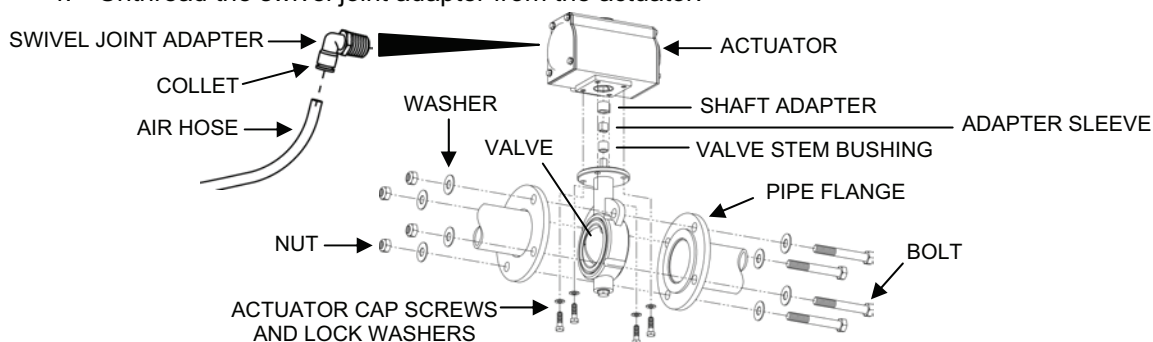

Figure 7. Butterfly Valve Replacement.
Replace any of the butterfly valves listed below as follows (see Figure 7):
- e. If the shaft adapter and adapter sleeve fell out of or were removed from the actuator, insert the shaft adapter into the actuator drive bore. Set the key of the shaft adapter into the actuator bore keyway so that when the valve is assembled onto the actuator, the valve body will be aligned with the actuator as shown in Figure 7.
- i. Make sure the valve body is aligned with the actuator as shown in Figure 7. If it is not, remove the valve and the shaft adapter / adapter sleeve. Reinsert the shaft adapter into the actuator bore with the adapter key fitted into the other keyway in the bore. Then insert the shaft adapter sleeve and the valve stem.